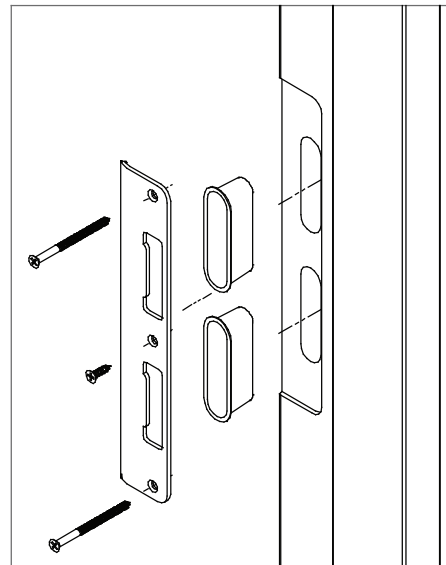

Figure 1b - Spread Mullion
Fasten with (2) #8 x 2-1/2" screws and (1) #8 x 5/8" screws for a **spread mullion**. See Figure 1b.